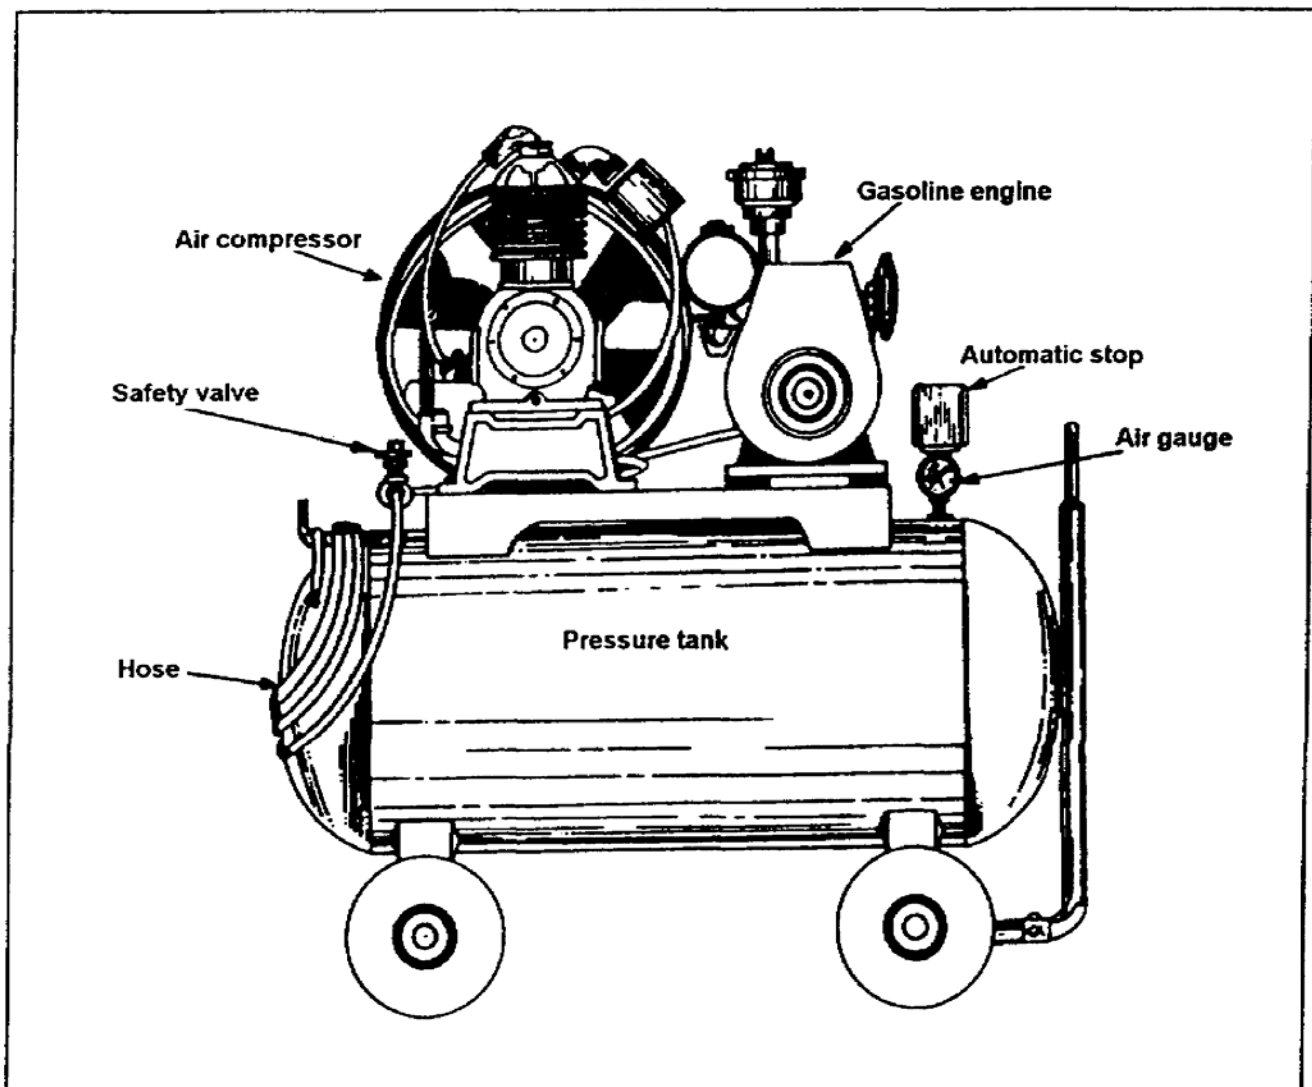

Figure 3-42. High-pressure air compressor (gasoline engine)
(2) High Pressure. Use this compressor for large jobs where heavy-duty spray equipment is required. A high-pressure air compressor is shown in Figure 3-42, page 3-34.